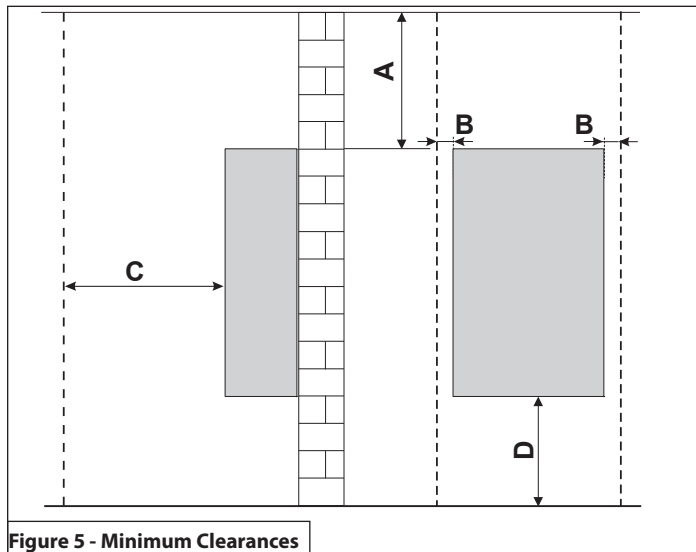

Figure 5 - Minimum Clearances
**NOTE:** If you do not provide the minimum clearances shown in Figure 5 and Table 5 it might not be possible to service the boiler without removing it from the space.